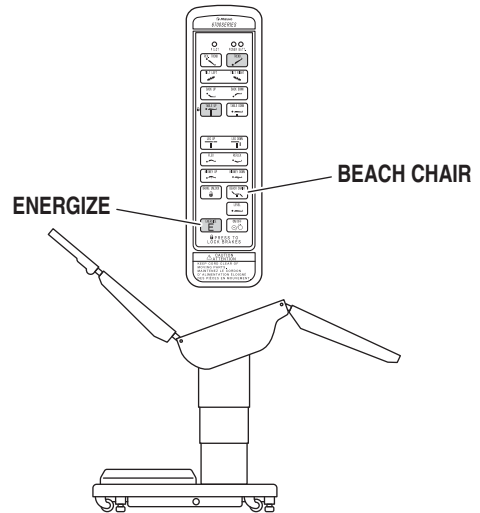

Figure 2-15. Beach Chair Positioning
j. Beach Chair To place the top in the beach chair position, press the ENERGIZE button and then the BEACH CHAIR button (figure 2-15). The back section will raise, the leg section will lower and the Trendelenburg positioning will function simultaneously. The functions will stop when Trendelenburg reaches it limit.